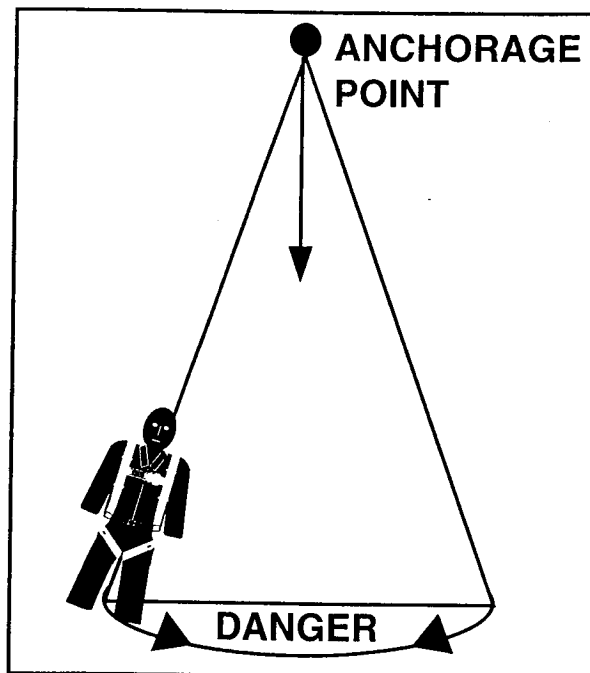

Figure 3
8.1.2 Always work directly under the anchorage point to avoid swing fall injury (see Figure 3).